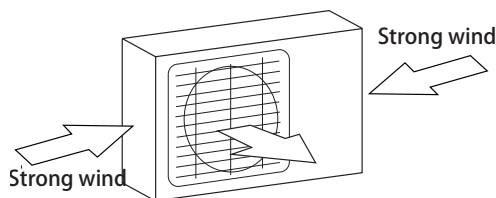

Fig. 9.1
- ☑ If the location is exposed to strong winds (for example: near a seaside), the unit must be placed against the wall to shelter it from the wind. If necessary, use an awning. (See Fig. 9.1 & 9.2)